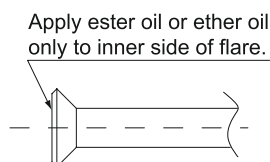

Fig. 7
- Apply ether oil or ester oil only to inner side of the flare and screw in the flare nut three to four turns first by hand at the time of connecting the flare nut. (Refer to Fig. 7)